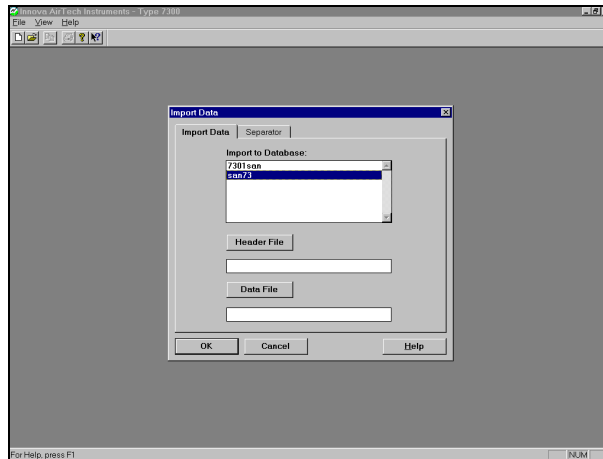

Fig.A.3 The Import Data dialogue
1. Pull down the **File** menu. Click on **Import**. The Import Data dialogue will be displayed, Fig.A.3.